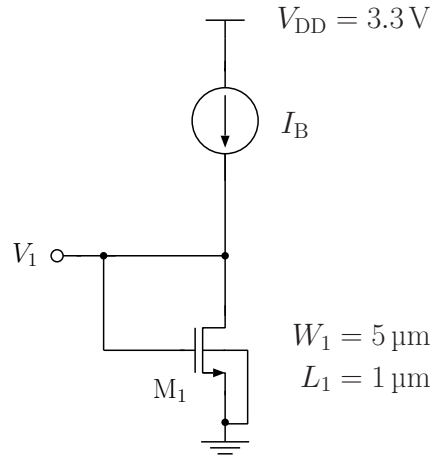
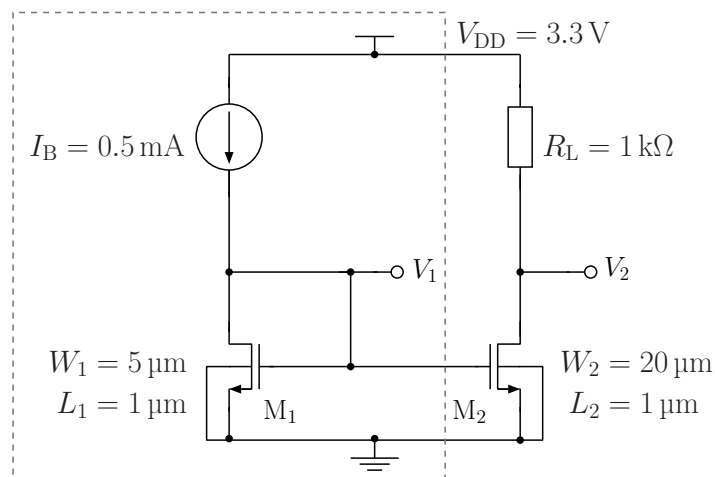

Figure 2: Simple diode-connected NMOS transistor.
Figure 3: Simple MOSFET current mirror.
Consider the diode-connected transistor shown in Figure 2 and answer the following questions:
- (b) Is the transistor M_1 in Figure 2 in saturation assuming $I_B = 0.5$ mA?
An additional transistor M_2 and a resistor R_L are added to the circuit in Figure 2 resulting in the circuit in Figure 3. Answer the following questions: